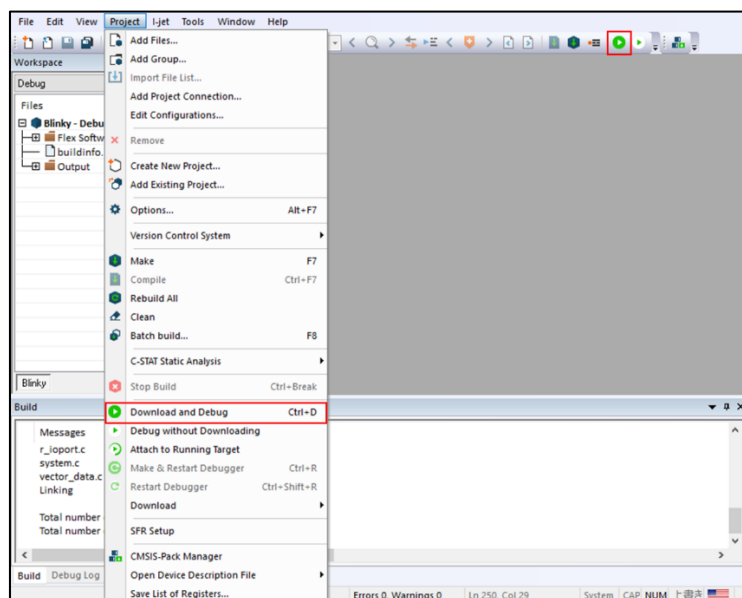

Figure 75 : Download and Debug Button
3. Download of the primary project with procedure 5.3.4 Download & Debug the Project as shown in Figure 75.